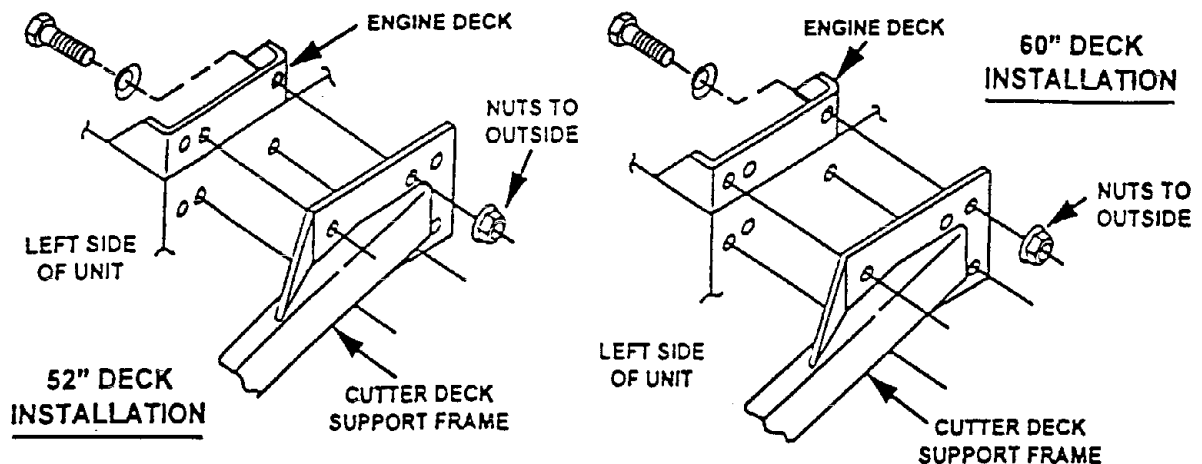

FIG. 1
3.3.3 Install cutter deck support frame to tractor engine deck and secure using (8) 3/8-16 x 1" screws, (8) disc spring washers and (8) whizlock nuts from bolt bag (See Figure 1).
NOTE: Make sure that the bolts are placed in the proper mounting holes in both frames. There are different mounting bolt locations for the 60" and 52" decks (See Figure 1).
NOTE: Place spring washer cone side against bolt head (cupped side away from head) and install to inside of engine deck (as shown in Figure 1). Install with whizlock nuts to the outside of the support frame. Tighten until spring washers are flat.